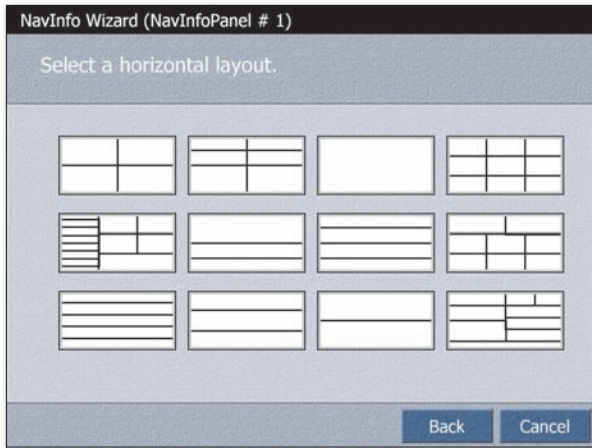

Figure 12.11 - NavInfo Wizard - Select a Layout
4. Select the layout configuration to assign to the window pane. When you select the layout, the NavInfo Wizard closes and the panel automatically updates. See **Figure 12.11**.